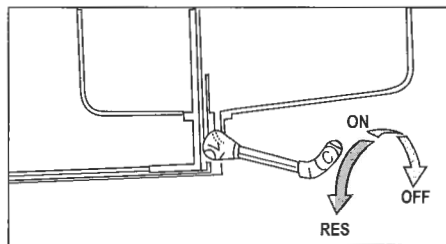

Fig. 12
**Petrol control** (fig. 12): The fuel cock below the saddle has 3 positions. Use **(ON)** for regular flow of petrol from tank to the engine; **(OFF)** for stopping the petrol supply to engine; and **(RES)** i.e. Reserve, to access the one litre of petrol kept in reserve in your tank for emergencies.